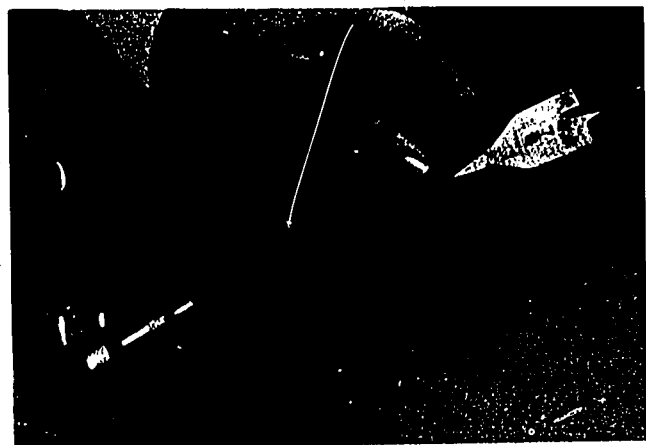

Fig. 52-3. Chucking Speed Bit in Drill
2. Chuck a $\frac{7}{8}$ " speed bit in the electric drill. See Fig. 52-3.